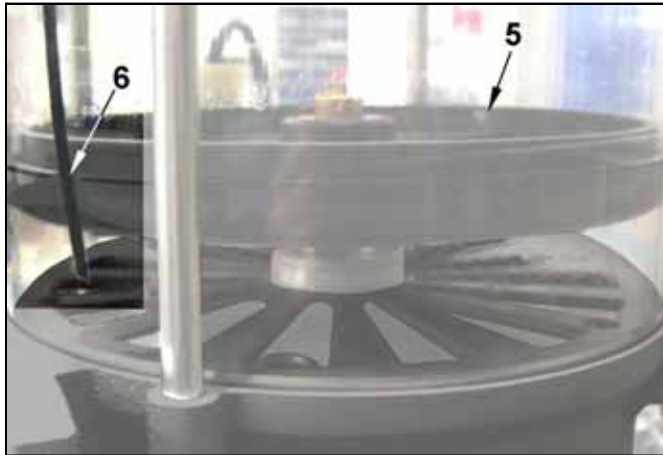

Fig. 6 Cable tie for venting
- Push cable tie 6 through tilted follower plate 5 and reservoir wall (see Fig. 6).
- Tilt the follower plate 5 back into the horizontal position again. Thereby ensure that on the cable tie 6 there results a gap between the upper and lower side of the follower plate 5 (see Fig. 6).